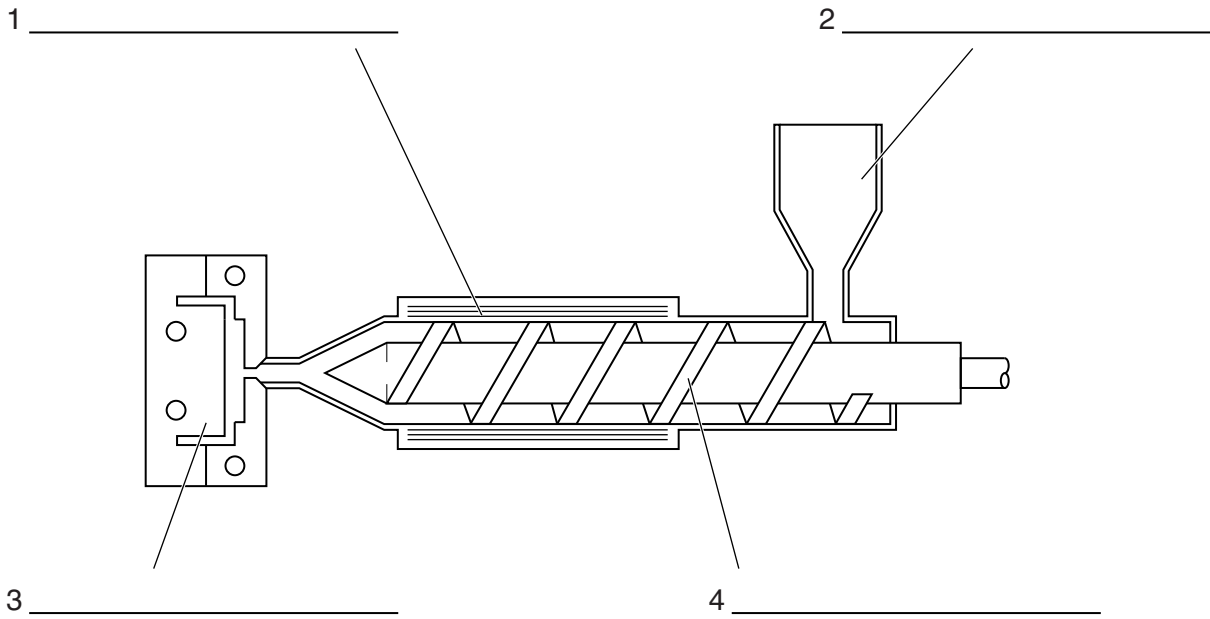

Fig. 2
3 Fig. 2 shows a line diagram of an injection moulding machine.
- (a) (i) Complete Fig. 2 by labelling the **four** parts of the injection moulding machine. [4]